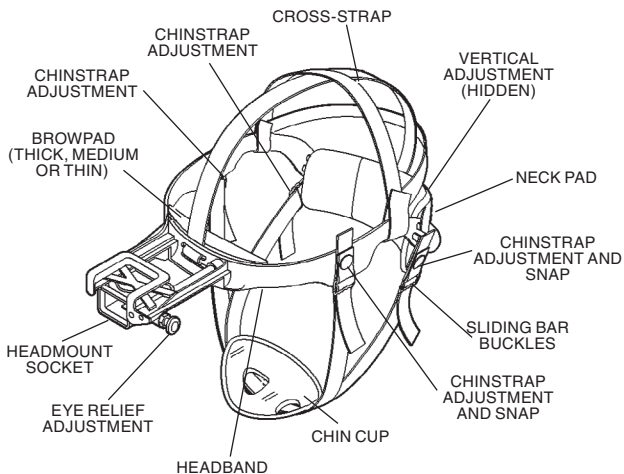

FIGURE 2.10. MUNVM HEADMOUNT ADJUSTMENTS
- (1) Prior to donning the headmount, loosen the four ends of the chinstrap approximately two inches from the sliding bar buckles (Figure 2.10.).
- (2) Snap the front and rear snaps (Figure 2.10.) in place.
- (3) With both hands grasp the neck pad (Figure 2.10.) and pull the harness over your head and the neck pad down to the back of your neck.
- (4) Holding the chin cup in position on chin, adjust both sides of the chinstrap until you feel light pressure against your chin. (DO NOT TIGHTEN.)
- (5) Maintain the position of the chin cup and remove any slack from the chinstrap. (DO NOT TIGHTEN.)
It may be necessary to remove the browpad (Figure 2.10.) when wearing the headmount over a protective mask.